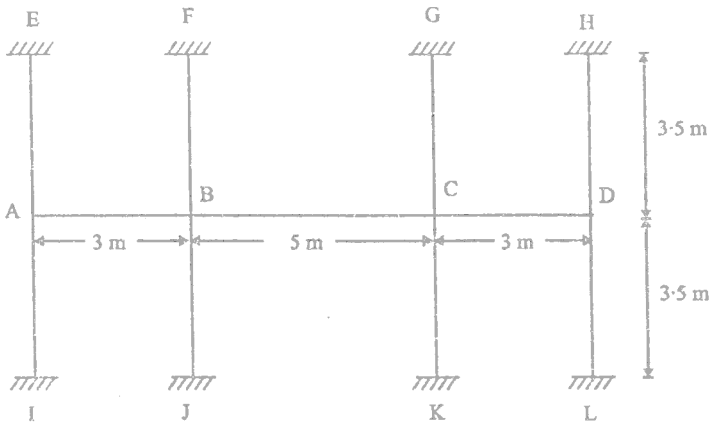

Fig. 6
6. Analyse the substitute frame shown in fig. 6 for maximum positive and negative bending moments in the beams AB, BC and CD. The frames are spaced at 3 m intervals. Use the following data to estimate the moments in beams and columns :